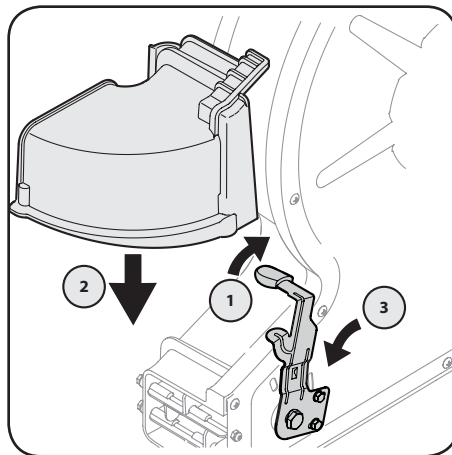

Figure 4-5
1. Pivot the blower direction lever all the way to the right, into the highest position. See Figure 4-5.
3. Pivot the direction lever to the middle position to lock the chute attachment in place. See Figure 4-5.